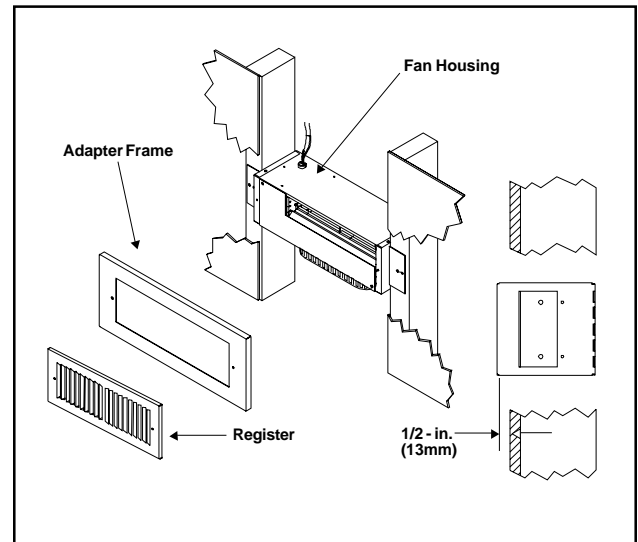

Figure 7
9. Screw the register adapter frame and the air register to the fan housing. See Figure 7.